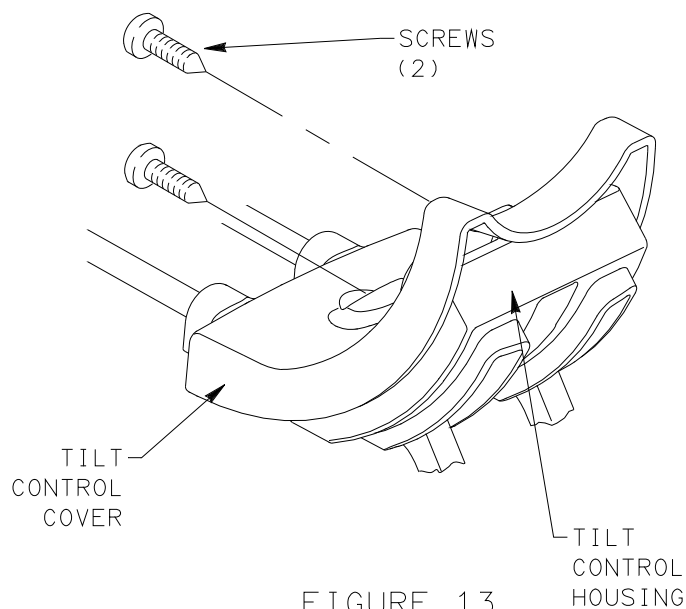

FIGURE 13
9. IF CHAIR IS MANUFACTURED WITH BASIC TILT OPTION, PROCEED TO STEP 14. USING #2 PHILLIPS HEAD SCREWDRIVER, REMOVE AND SET ASIDE (2) SCREWS FASTENING TILT CONTROL COVER TO TILT CONTROL HOUSING. SET ASIDE TILT CONTROL COVER. SEE FIGURE 13.
13. INSTALL TILT CONTROL COVER TO TILT CONTROL HOUSING AND SECURE WITH (2) SCREWS. SEE FIGURE 13.
9. UNSNAP COVER HALVES FROM LEVER AND SET ASIDE. SEE FIGURE 13.
12. INSTALL CABLE COUPLER INTO MATING CAVITY ON HALF OF COVER. INSERT LEVER INTO SAME HALF OF COVER. ATTACH OTHER COVER HALF TO EXISTING ASSEMBLY. SEE FIGURE 13.